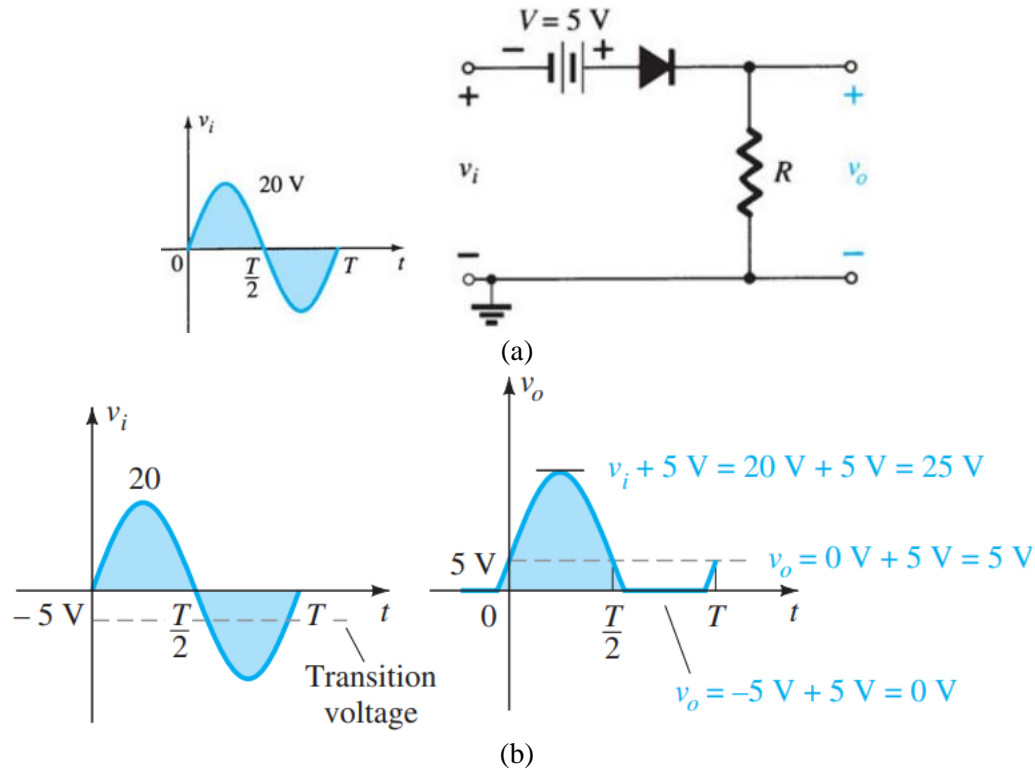

Figure 2: Biased series clipper: (a) Circuit diagram; (b) Input-output wave shapes (sinusoidal).
Figure 2 (a) shows the biased series clipper circuit, where a DC supply is connected in series with the diode. The response of the biased series configuration of Fig. 2 (a) to sinusoidal waveform is provided in Fig. 2 (b).
12. Connect the circuits as shown in Figures 2 (a) to 9 (a). Then repeat steps 3-11, but record data in Tables like Table 1.